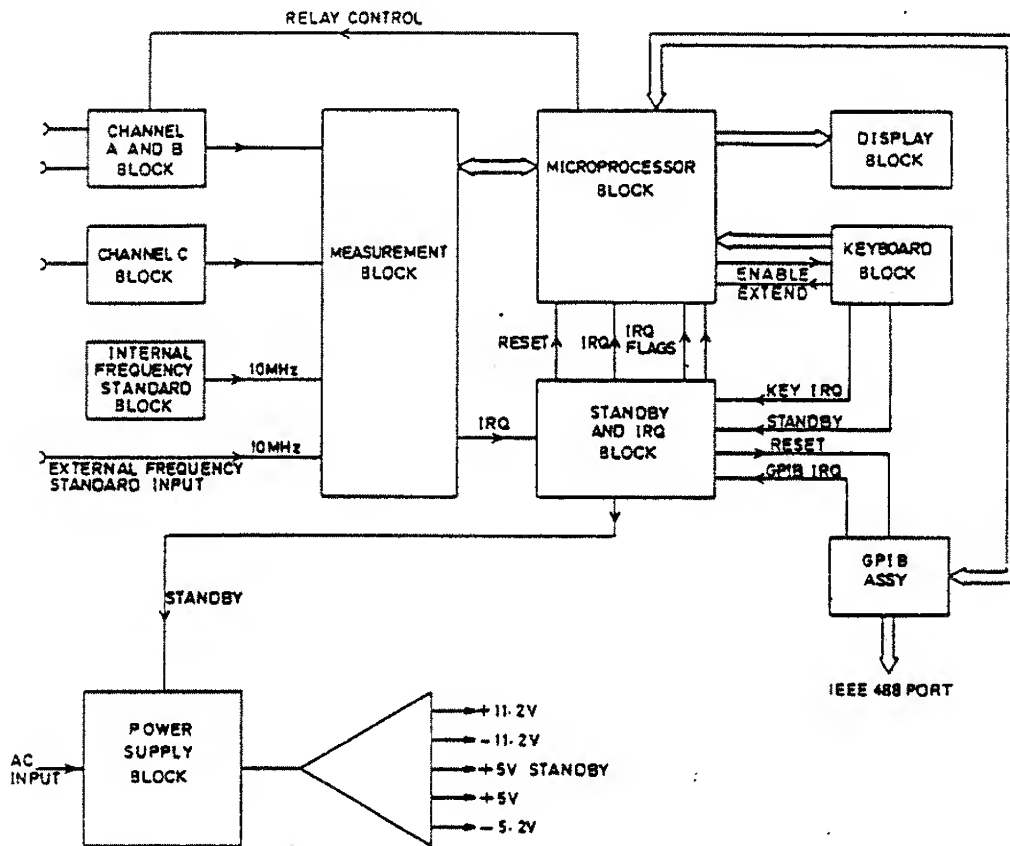

Figure 5.1 - Simplified Overall Block Diagram
5.1.2 The theory of operation provided is based on the simplified overall block diagram shown in Figure 5.1. Key circuit blocks of the 1994 are described and supported in this section using simplified block and schematic diagrams. These diagrams supplement the complete schematics found in Section 7 of this manual. As much as possible, the simplified schematic and block diagrams provided here are annotated with the same reference designators found in the complete schematics. This should facilitate cross-referencing between this section of the manual and the schematics.
5.2.2 The functional relationship between the blocks of the 1994 is illustrated in Figure 5.1. The measurement block is internally configured by the microprocessor according to the instructions entered via the keyboard or over the GPIB. The signal to be measured and the signal from the frequency standard are fed to the measurement block. The measured result is passed to the microprocessor. If mathematical manipulation of the result is required, this is performed by the microprocessor before the final output is passed to the display or system.